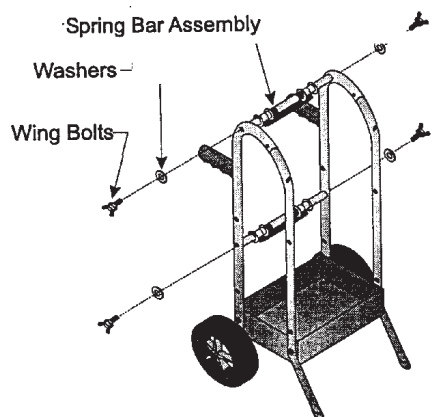

Figure 4. Spring Bar Installation
8. Repeat steps 6 and 7, placing the second Spring Bar Assembly between the large holes in the Rear Frame above the Large Bottom Tray. See *Figure 4*.